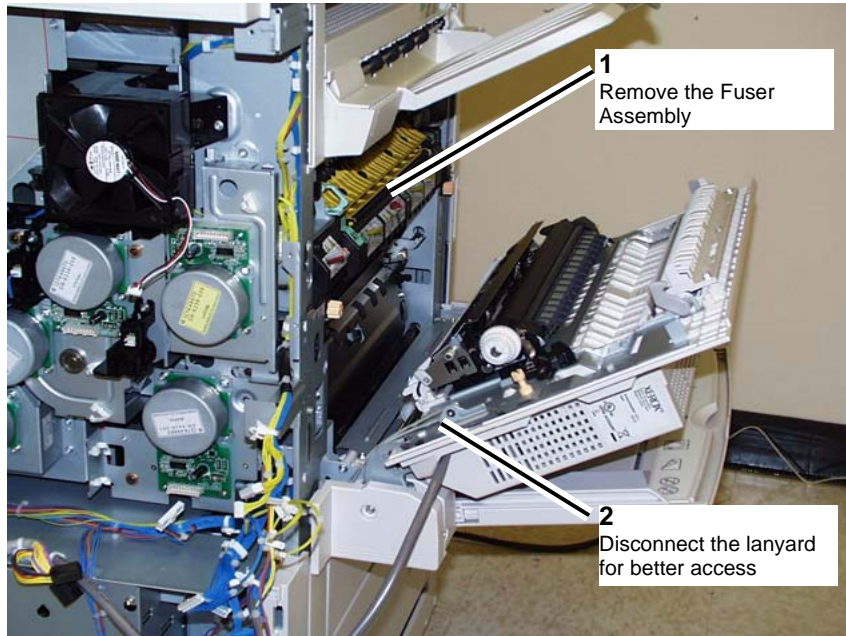

Figure 5 Removing the Fuser Assembly
8. Open the Left Side Upper Cover and remove the Fuser Assembly. (Figure 5)